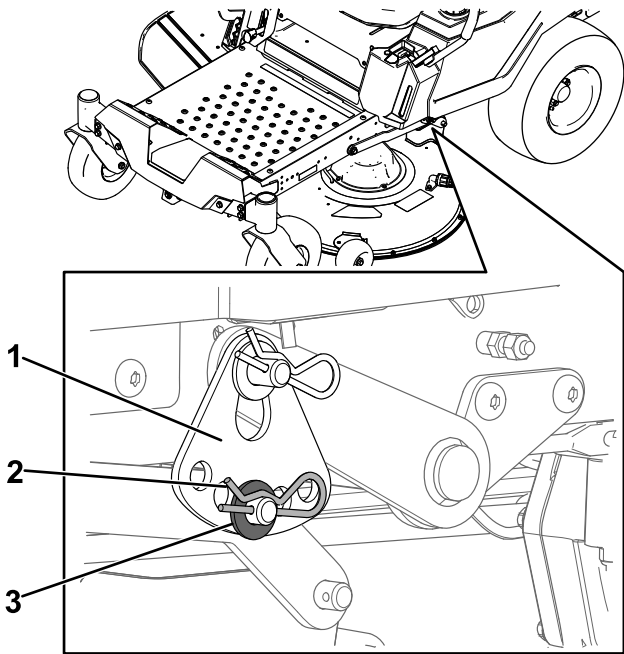

**Figure 63**
4. Place 2 blocks, each having a thickness of 6.6 cm (2-5/8 inches), under each side of the front edge of the deck but not under the anti-scalp roller brackets (Figure 63).
5. Place 2 blocks, each having a thickness of 7.3 cm (2-7/8 inches), under the rear edge of the cutting deck skirt, 1 on each side of the cutting deck (Figure 63).